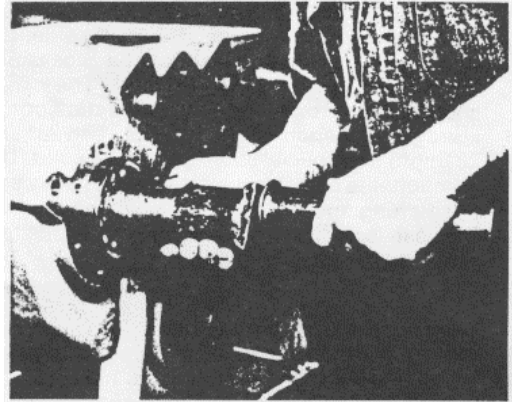

Fig. 12
3. Slip the front bearing (Item 8) over the end of the shaft and into the housing bore. The snap ring on the bearing should be on the outboard side of the bearing. Tap bearing into place (See Fig. 12).